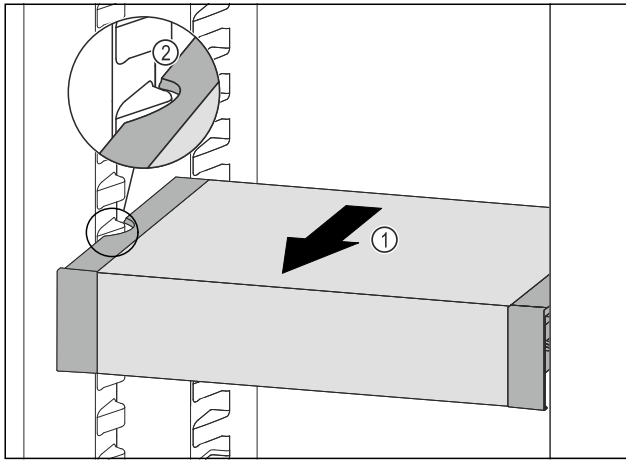

Fig. 124
- ▶ Pull VarioSafe forwards Fig. 124 (1) until the recesses in the side of the VarioSafe are at the level of the support rib in the fridge section. Fig. 124 (2)